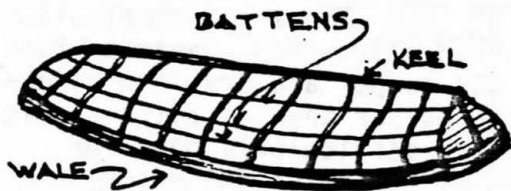

FIG. 1
4. Lay out the run of the planking. Use 1/16" square battens. Pin the first batten to the midship frame at the turn of the bilge, and let it follow the natural sweep of the hull making contact with each frame; then pin it to every other rib. Now run another batten between the first batten and the keel, and another between the first batten and the under side of the wale. Use at least three battens on a 1/4" scale model. Now see if the battens run fair on the hull. Check from all angles, and rearrange them when necessary. Duplicate the final batten set up on the other side of the hull, and you will be about ready to start planking. Note: Drill holes in the battens for the pins to prevent splitting; one of the pins will serve as a drill bit. I also add a small touch of glue here and there to hold the pinned battens in place. (See Fig. 1)